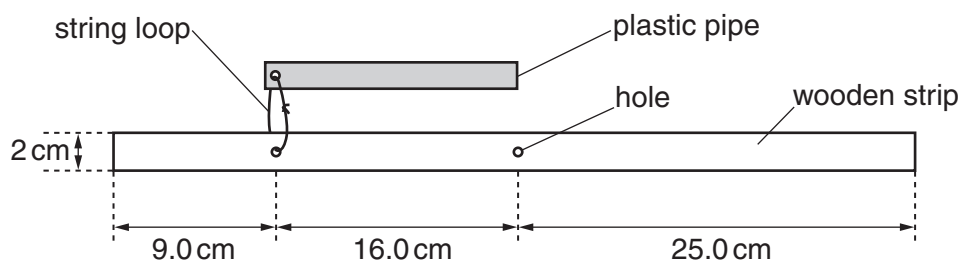

Fig. 2.2
- 2 Drill two holes of diameter 4 mm centrally through the wooden strip at the positions shown in Fig. 2.2.
Connect the plastic pipe and wooden strip together using a string loop of circumference 10 cm, as shown in Fig. 2.2.